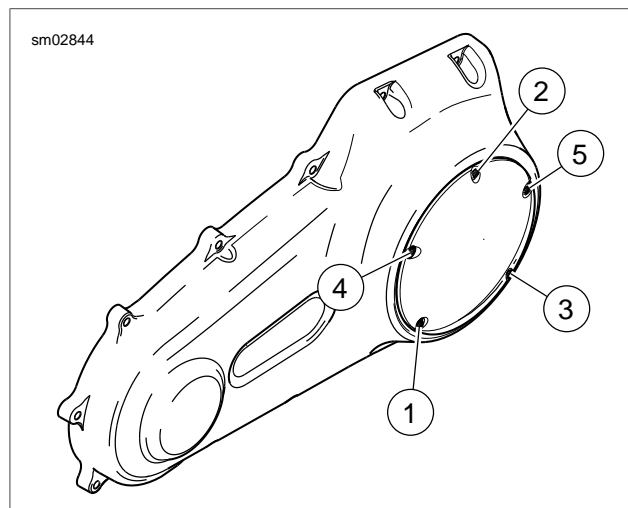

Figure 1-16. Clutch Cover Torque Sequence
- See Figure 1-16. Insert screw (with captive washer) through clutch inspection cover and carefully thread it into the top cover screw hole.
- Alternately tighten screws to 84-108 **in-lbs** (9.5-12.2 Nm) following torque sequence shown in Figure 1-16.
- c. See Figure 1-16. Insert screw (with captive washer) through clutch inspection cover and carefully thread it into the top cover screw hole.
- e. Alternately tighten screws to 84-108 **in-lbs** (9.5-12.2 Nm) following torque sequence shown in Figure 1-16.